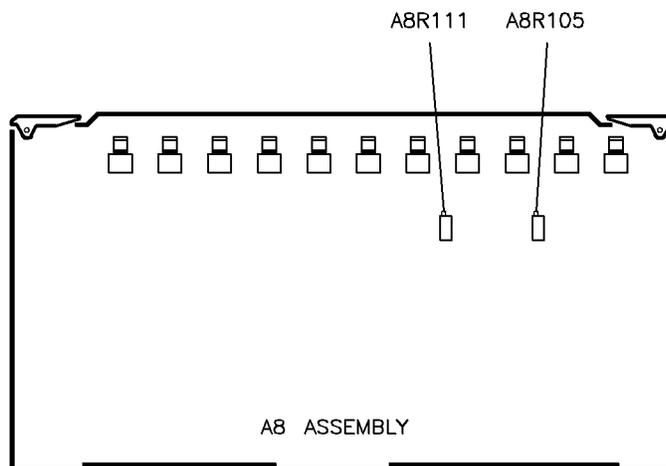

Figure 3-27. A8R111 and A8R105 Adjustment Locations
4. Adjust A8R111 (see Figure 3-27) to center the “needle” on the display.
6. Adjust A9R105 (see Figure 3-27) to center the “needle” on the display.